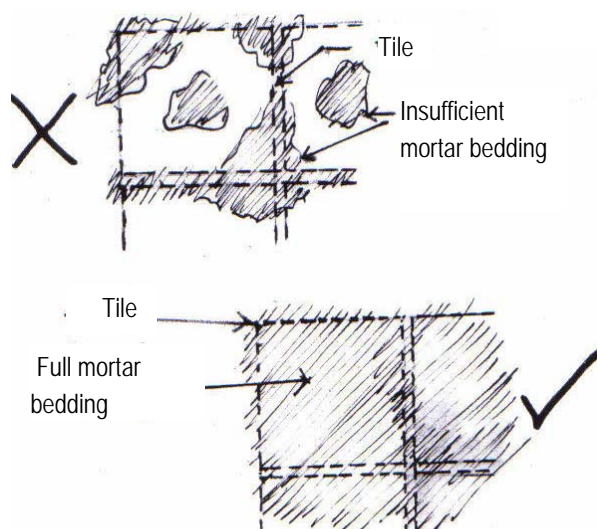

Fig 24 - **Floor tiling**
- Made sure that there are no voids in the cement rendering under each tile to ensure the stability of each tile (See fig. 24)